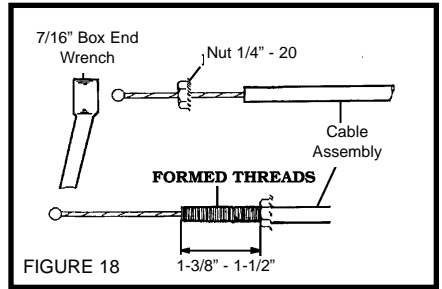

FIGURE 18
- a. Before using the **SNAP-IN ADAPTOR**, remove the Adjustable Sleeve from the **CABLE ASSEMBLY**. To use the **SNAP-IN ADAPTOR**, it will be necessary to form threads on the end of the **CABLE ASSEMBLY**. This is easily accomplished by placing the **1/4" - 20 NUT** on the end of the **CABLE ASSEMBLY** with your fingers. Then using an **7/16"** box end wrench and turning the Nut clockwise until the desired amount of threads have been formed. **Figure 18**
- c. Before using the **1/4" - 20 Nut**, remove the Adjustable sleeve from the **CRUISE CABLE**. Then use the **LOCKWASHER NUT** to form threads on the end of the **CABLE ASSEMBLY**. This is easily accomplished by placing the **1/4" - 20 NUT** on the end of the **CABLE ASSEMBLY** with your fingers. Then use an **7/16"** box end wrench and turn the nut clockwise until the desired amount of threads have been formed **Figure 18**